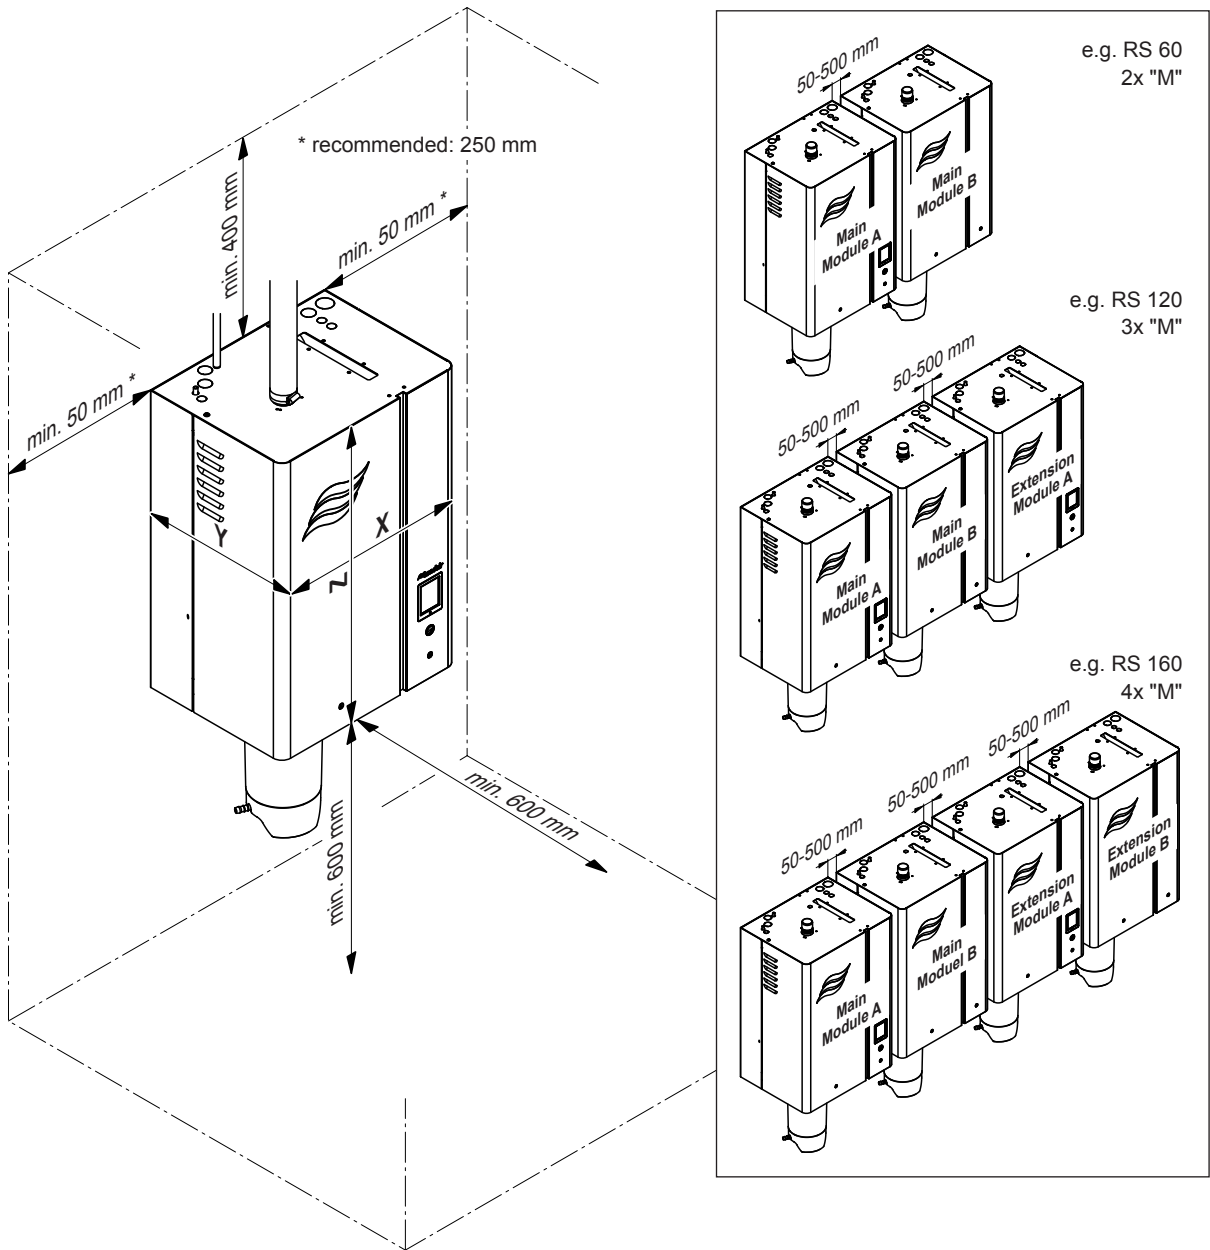

Abb. 9: Distances to be observed
- Install the Condair RS in such a manner that it is **freely accessible** with sufficient space available for maintenance purposes. The **minimum distances** shown in Abb. 9 **must be maintained**.
- In order to use the cables supplied with double units and Linkup systems, the units must be mounted on the same height, with a minimum distance of 50 mm and a maximum distance of 500 mm between the units and in the order shown in Abb. 9.